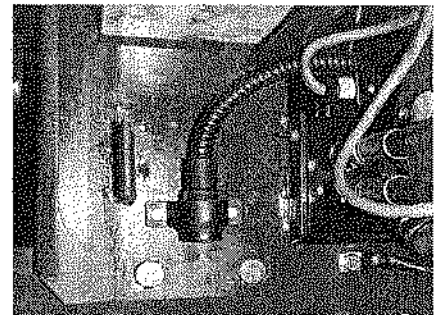

Figure 30-3
7. Drill holes for screws of the fastener of the engine heater electric plug in the side plate and attach the plug with the fastener (figure 30-3).